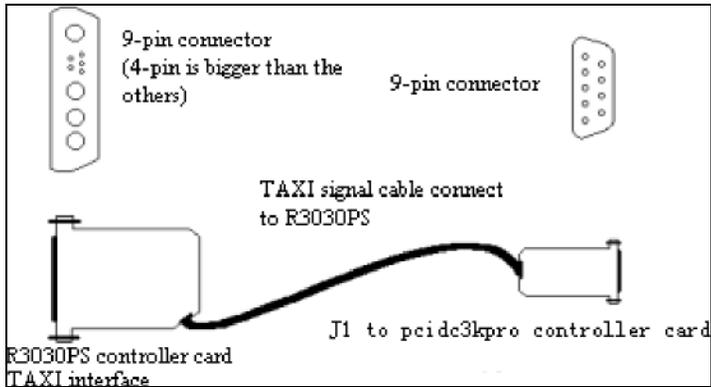

Figure3.
Figure3 shows the sketch of TAXI signal cable:
8. As shown in Figure 3, connect TAXI signal cable.